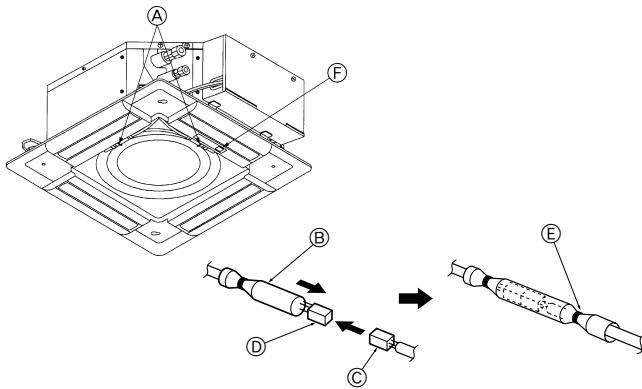

Fig. 8-8
8.3.4. Wire connection (Fig. 8-8)